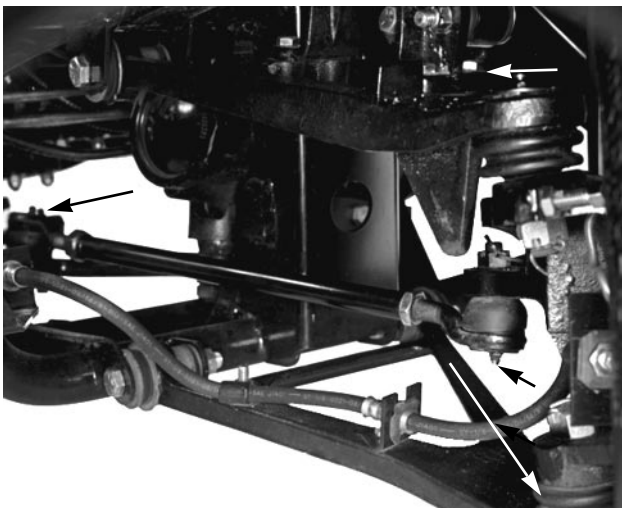

Figure 11
The grease fitting locations and quantities are: Tie rod ends (4) (Fig. 11), Front ball joints (4) (Fig. 11), Rear drive shafts (6) (Fig. 12), Steering shaft (1) (Fig. 13), Front pivot bushings (2) (Fig. 14) and Pedal pivots (4) (Fig. 15).